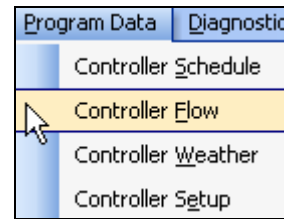

Figure 16.3.1B
1. In the toolbar at the top of the screen select **Program Data** then scroll down to **Controller Flow** and click on it (Figure 16.3.1B).